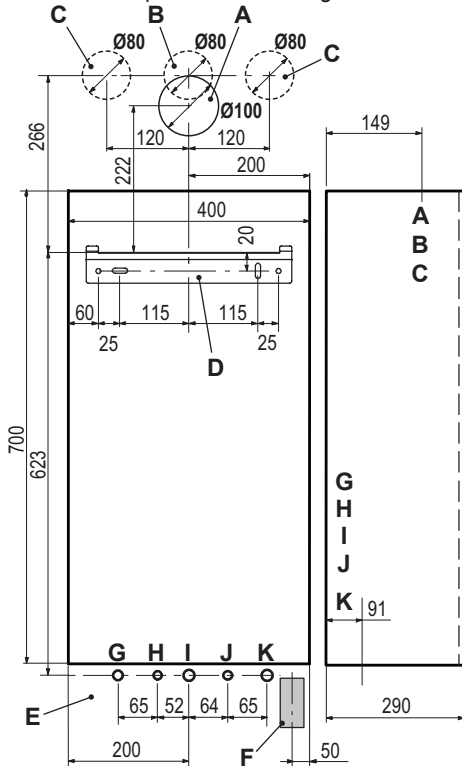

Fig. 6.2
- Fix the water valve "O" ( $\frac{1}{2}$ " to position "J" (Fig. 6.2) using the  $\frac{1}{2}$ " gasket.
- Fix the C.H. valves "N" to position "G" and "K" (Fig. 6.2) using the  $\frac{3}{4}$ " gaskets.
- Fix the gas cock "P" to position "I" (Fig. 6.2), using the  $\frac{3}{4}$ " gasket.
- Fix the  $\varnothing$  15 mm copper pipe "Q" to position "H" (Fig. 6.2) using the  $\frac{1}{2}$ " gasket.